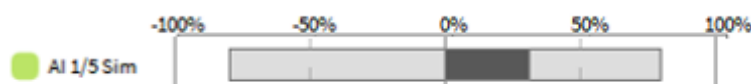
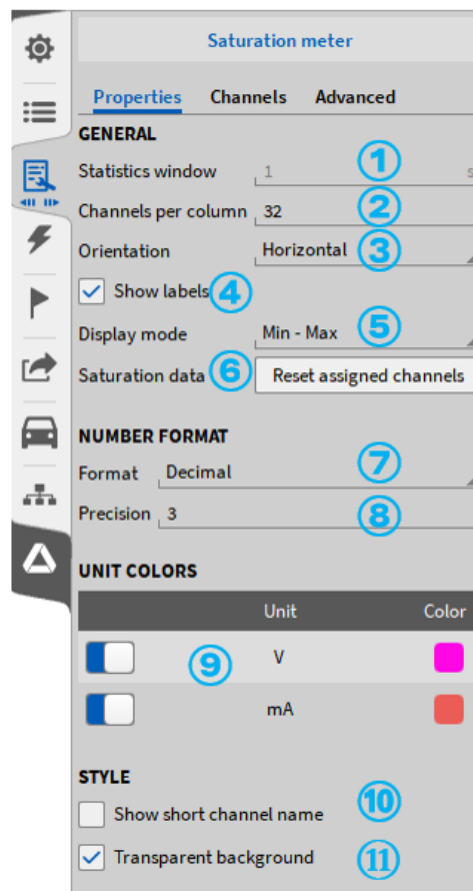

Fig. 8.17: Display of saturation within saturation meter
Fig. 8.18: Saturation meter instrument settings
Fig. 8.17 shows how the saturation will be visualized within the instrument. The minimum and maximum saturation of the channel will be displayed in light grey, whereas the minimum and maximum saturation of the channel's latest statistics window will be displayed in dark grey. Furthermore it is possible to set different colors for the visualization of the channels with the same unit (see ⑧ in Fig. 8.18). Please note that the total saturation values of the channels are only available in live and recording mode and the latest statistics values can be delayed by up to one interval since the underlying calculation for the relevant data might not be available at the time of the update.